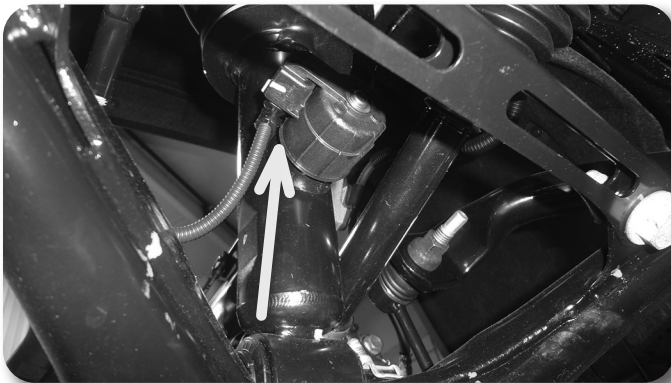

Figure 11A
15. **Denali Models (ARC models) only:** Disconnect the wire harness to the lower strut body for the ARC system Fig 11A. Remove the wire harness from the lower control arm.